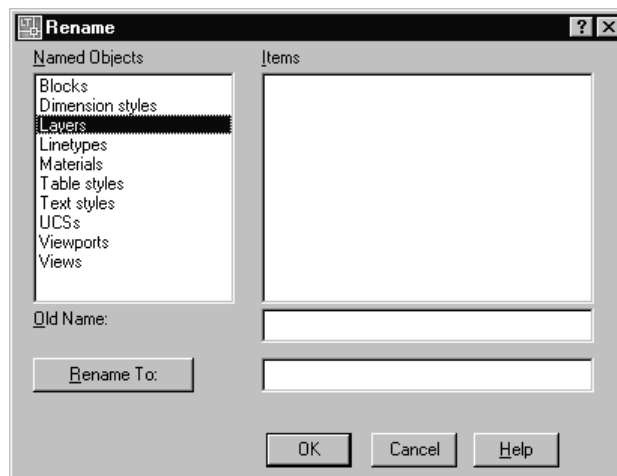

Figure 18-29 The **Rename** dialog box
3. Enter HID in the **Rename To** edit box (Figure 18-29), and choose the **OK** button.